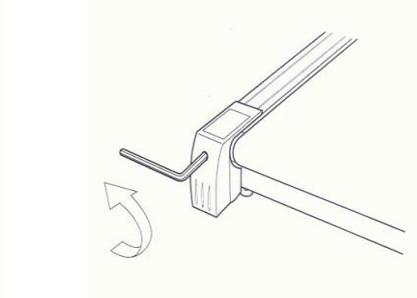

Figure 2
**2. Running belt has shifted to the right side. (Figure 2 - Adjusting the belt to the left side)**